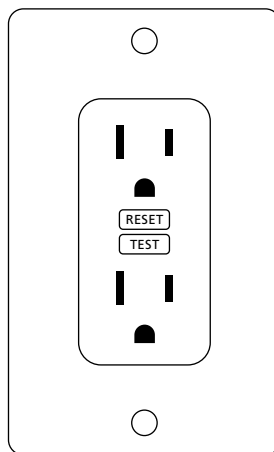

FIGURE 12: GFCI OUTLET
The RV breaker/fuse box is usually located in the rear sleeping area or on the bed frame. It creates heat and requires good ventilation. Keep the area around the RV breaker/fuse box clear. See FIGURE 12: RV BREAKER/FUSE BOX on this page.
- The generator **START/STOP** switch is located on the monitor panel. See Figure 12: MONITOR PANEL on page 22. There is a second generator **START/STOP** switch on the generator itself. If the generator will not start from the switch inside the RV, try